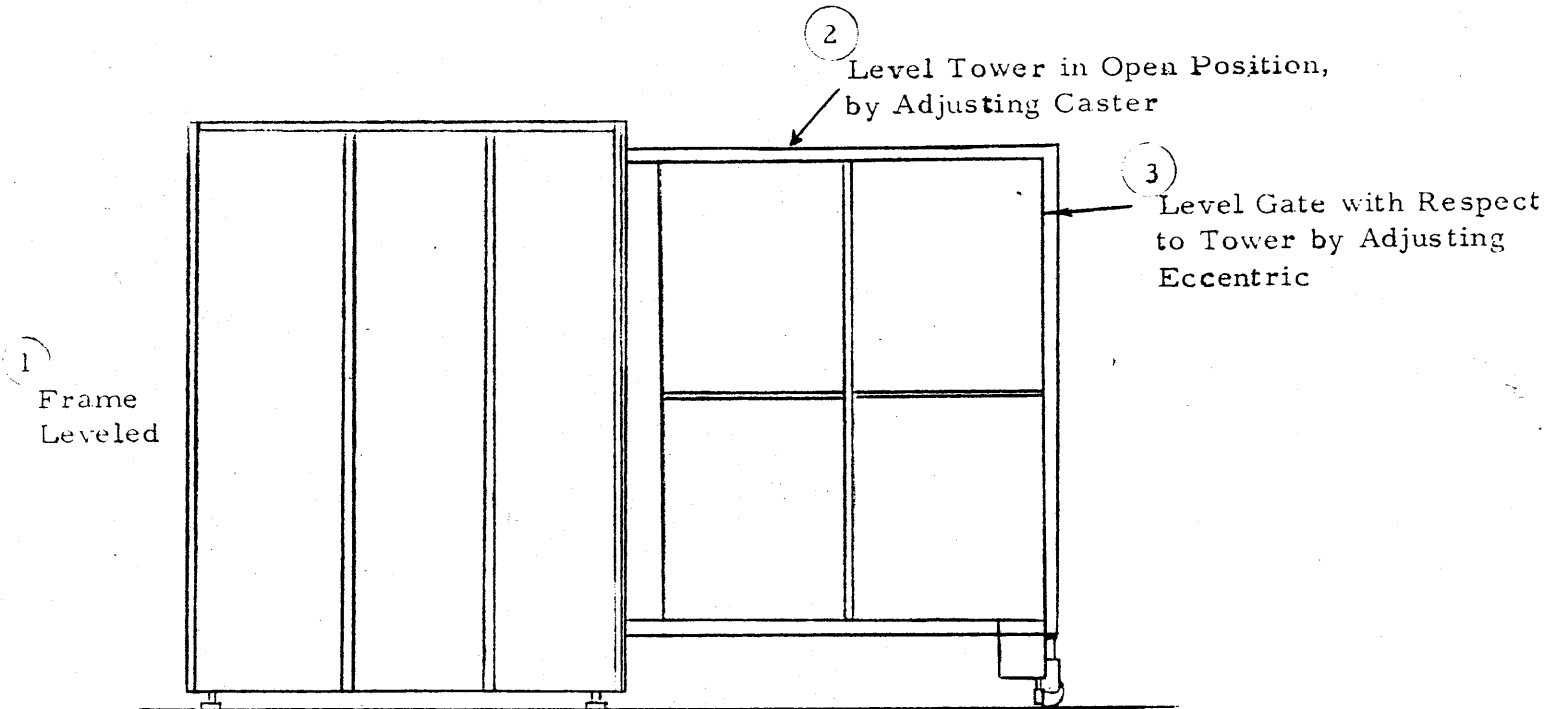

FIGURE 4-5. TOWER AND GATE LEVELING
4. The gate casters are lifted off the floor when they are locked to the tower by an adjustable eccentric roller as it rides on a cam; see Figures 4-5, 4-6 and 4-7. It may be necessary to adjust the roller to obtain sufficient lift on the gates, and also to obtain a straight top cover line with respect to adjoining gates.